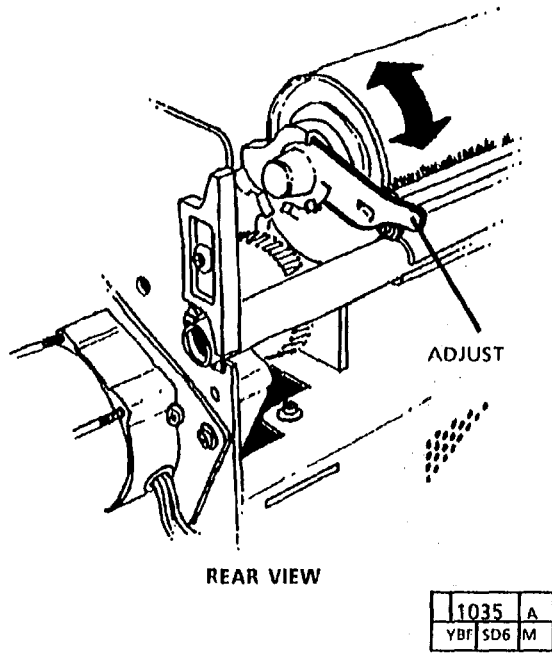

Figure 25 (2510 only). Setting the Darkness Lever
32. (2510, Figure 25): Set the darkness lever to the fourth notch from the bottom.